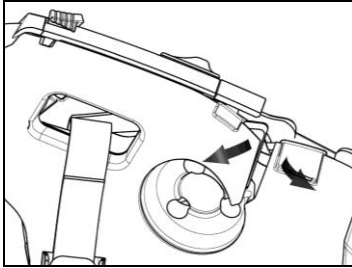

Fig. 15
- Lift up the plastic lining of the cheek padding (Fig. 15).